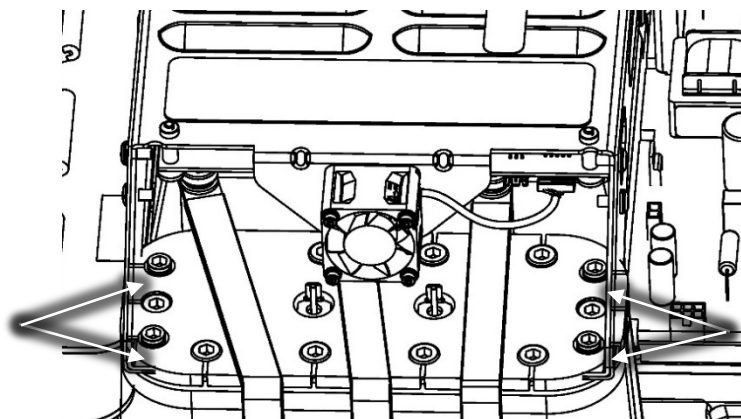

Figure 3 – Soft Start Mounting Fasteners
11. Remove the M5x15 fasteners that secure the Soft Start mounting bracket to the compressor. Refer to Figure 3 (Soft Start Mounting Fasteners).